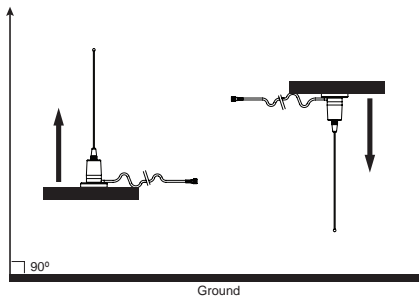
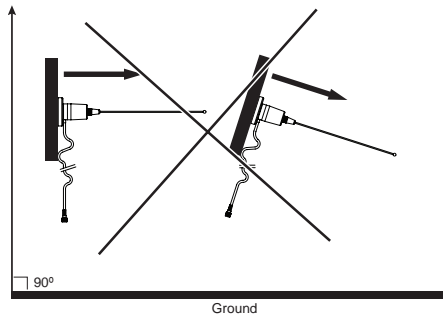

Figure 11a. Examples of Correct Exterior Magnetic Mount Antenna Orientation
Figure 11b. Examples of Incorrect Exterior Magnetic Mount Antenna Orientation
- When installing the exterior antenna into the magnetic mount, make sure the antenna is always in a vertical orientation (either straight up or straight down, 90° to ground). Avoid side or skewed antenna orientations as these positions can affect repeater performance (See examples in “Figure 11a. Examples of Correct Exterior Magnetic Mount Antenna Orientation” on page 23 and “Figure 11b. Examples of Incorrect Exterior Magnetic Mount Antenna Orientation” on page 23).
- The RF Cable doesn't go around the magnetic mount antenna, antenna, the repeater device or the power supply cable as all these can cause electromagnetic interference (please refer to “Figure 11a. Examples of Correct Exterior Magnetic Mount Antenna Orientation” on page 23 and “Figure 11b. Examples of Incorrect Exterior Magnetic Mount Antenna Orientation” on page 23 for examples of wrong positioning).